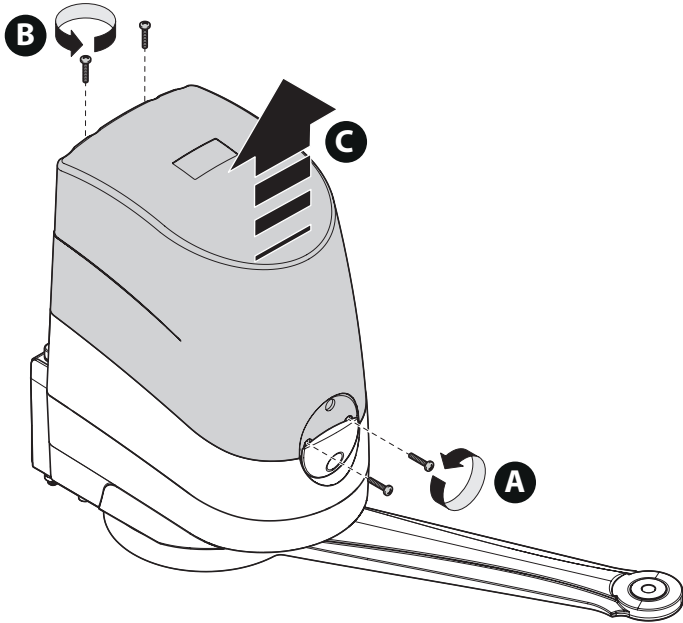

Fig. 21
01. Remove the gear motor cover as shown in **Fig. 21**;